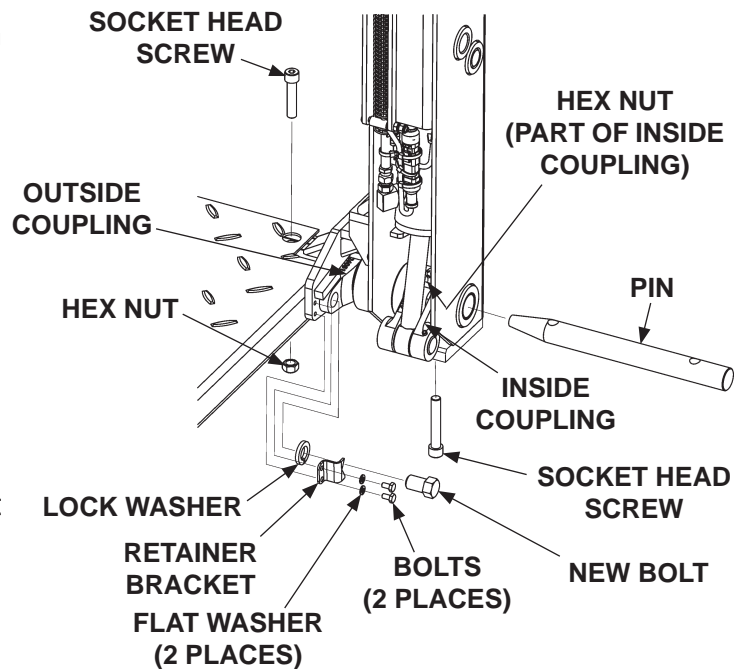

FIG. 9-2
18. Insert pin through runner, inside and outside couplings, and platform connector at the RH runner. Then, bolt pin to inside coupling and platform (**FIG. 9-2**).
19. Bolt outside coupling to platform connector bracket with new bolt (Kit item) (**FIG. 9-2**). Then, bolt retainer bracket to connector bracket.